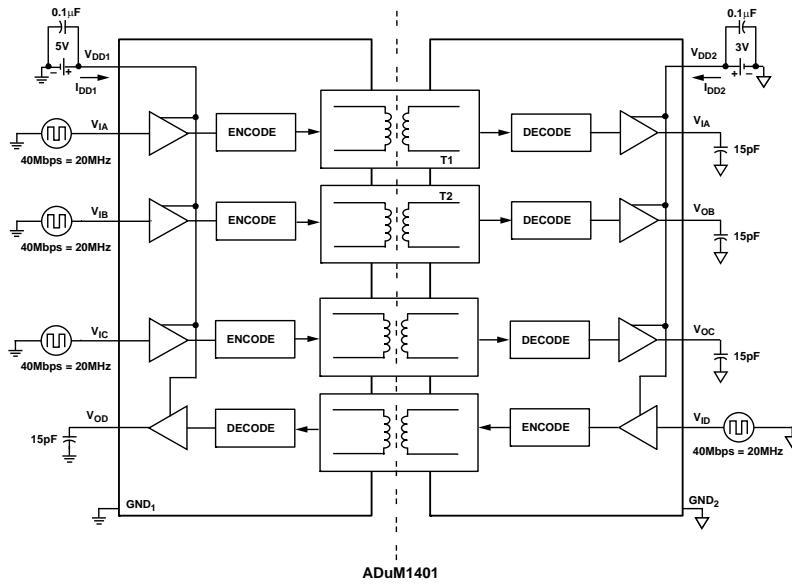

Figure 6. Supply Current Calculation Example Using the ADuM1401
Figure 6 shows an example using the ADuM1401 quad iCoupler. The operating conditions are:  $V_{DD1} = +5V$ ,  $V_{DD2} = +3V$ ,  $C_L = 15 \text{ pF}$ ,  $f = 40 \text{ Mbps}$  ( $f = 20 \text{ MHz}$ ). The total  $I_{DD1}$  and  $I_{DD2}$  currents are the sum of the appropriate  $I_{DD1}$  and  $I_{DD2}$  for each of the four channels.
**Table 2. Supply Current Calculations for Figure 6**